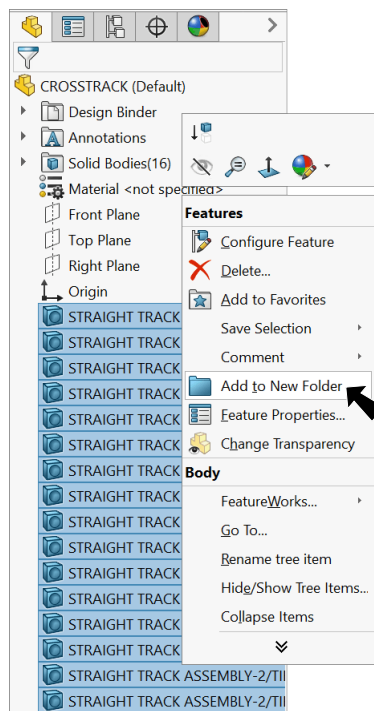

Fig. 7
Step 2. **Shift click all the Solids** in the Feature Manger to select all and **right click**, then click **Add to New Folder**, **Fig. 7**.